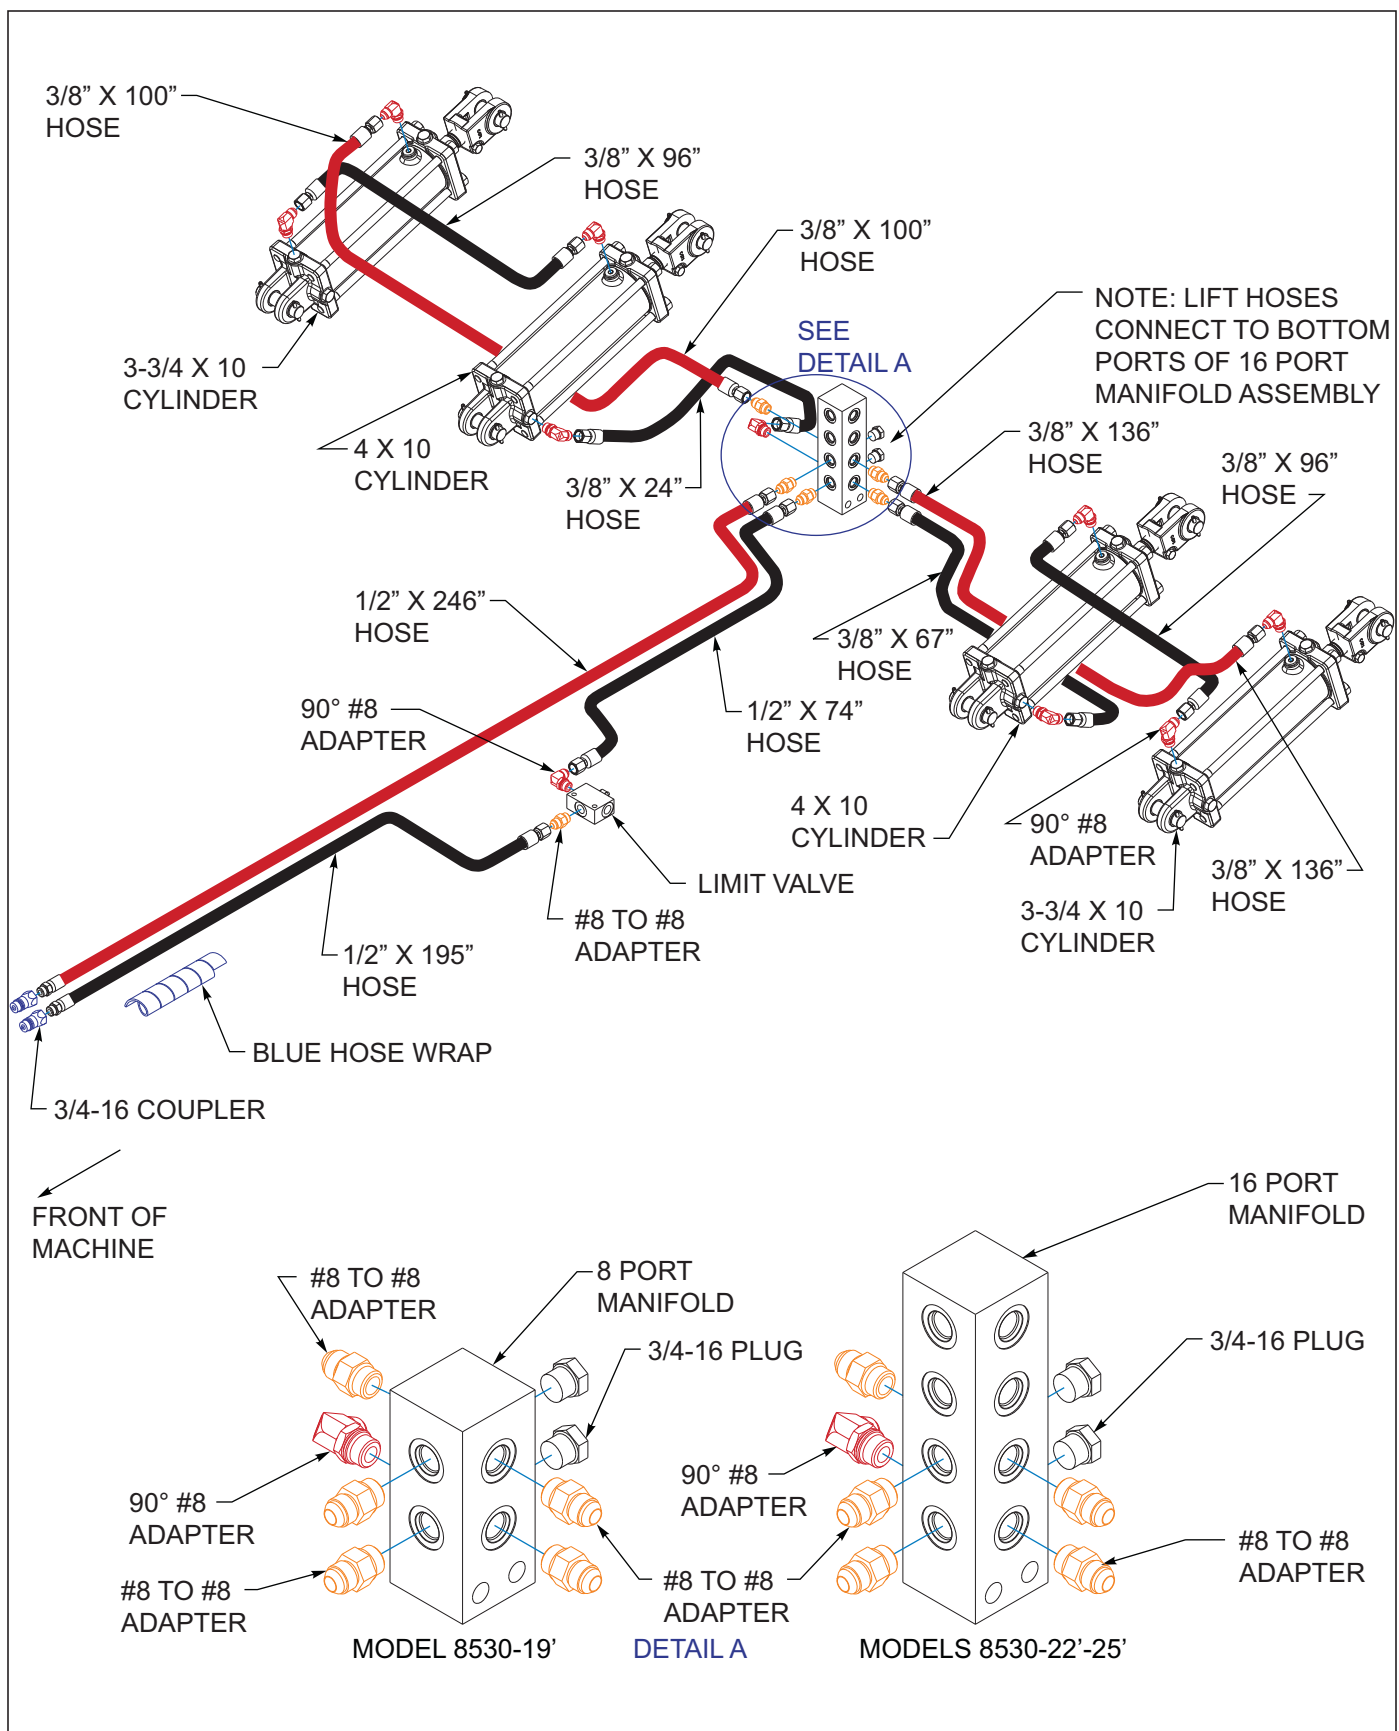

Figure 3-36: Hydraulic Lift Installation 8530-19'-25'
4. Install 90 degree regular adapter fittings in both ends of all lift cylinders. Install the lift cylinder hoses as shown in *Figures 3-36 through 3-41*. Route the hoses along the right side of the hitch, and through the hose loops provided along the frames. Wrap the front two ends of the lift hoses with a blue hose wrap.